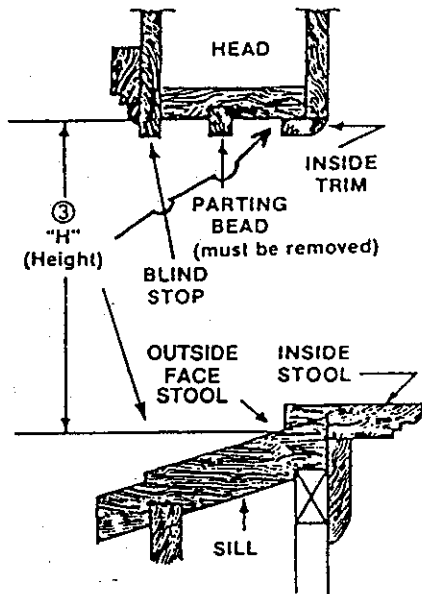

FIG. 2
HEIGHT: Measure from high point of sill (at outside face of stool) to top of window, in left and right sides. Use smallest dimension. See Fig. 2. ③ "H" (height).